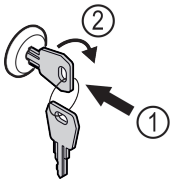

Fig. 120
- ▶ Insert key Fig. 120 (1).
- ▶ Turn key clockwise by 90° Fig. 120 (2).